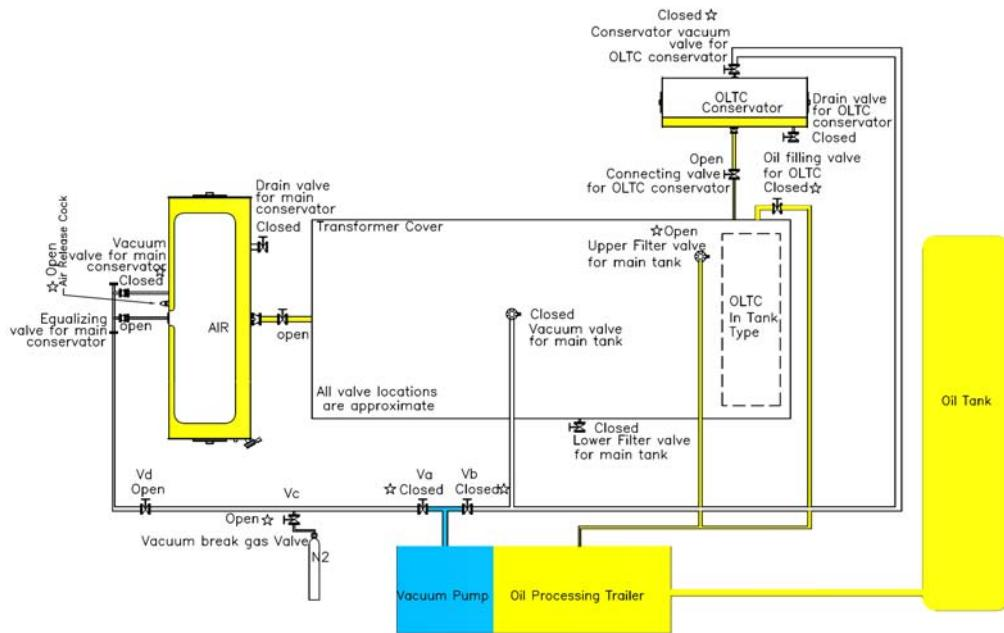

Figure 5.8
2. Configure the valves as shown in Figure 5.8